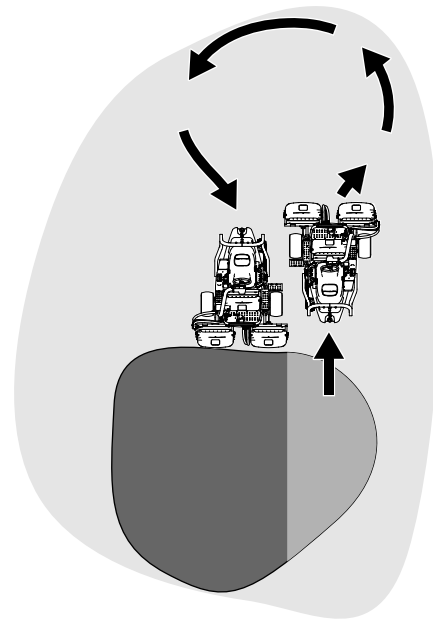

Figure 38
6. To cut down on operating time and to ease the lineup for the next pass, momentarily turn the machine in the opposite direction, then turn it in the direction of the uncut portion. This movement is a tear-shaped turn (Figure 38), which quickly lines the machine up for your next pass.